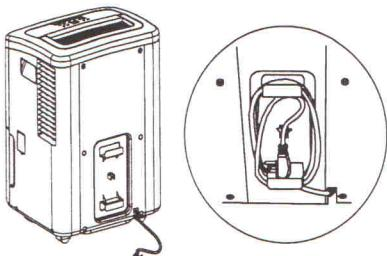
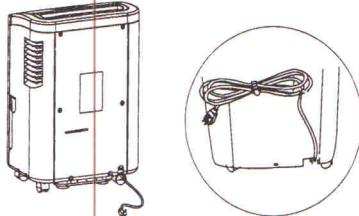

Fig. 12a
Fig. 12b
- Twist the cord on the buckle(Fig.12a) or wrap the cord and bundle it with the band(Fig.12b) .